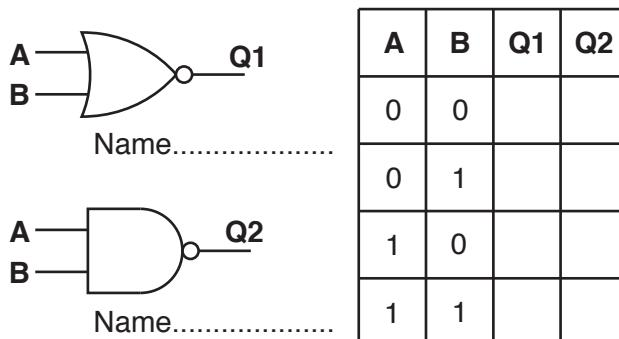

Fig. 4
- 7 Fig. 4 shows two logic symbols with truth tables for each.